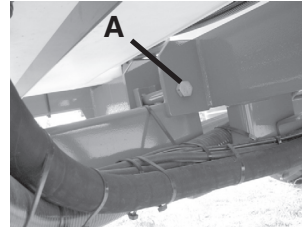

Fig 51
- 2 Tighten chassis bolts (under flush tank) (A Fig 51) - 370 Nm (270 lbf-ft).